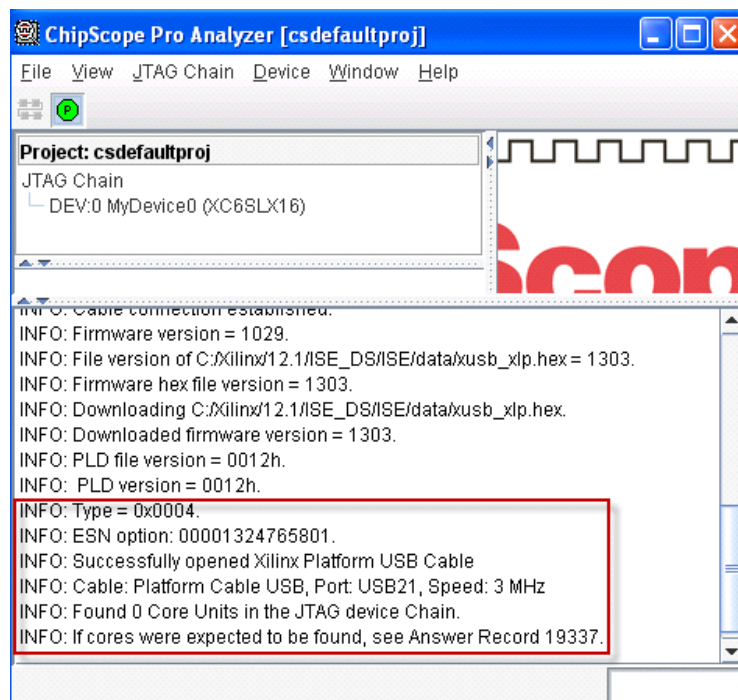

Figure 5: JTAG Chain Connection Data
4. Confirm the connection to the JTAG chain by verifying the information that appears in the bottom pane of the ChipScope Pro Analyzer window, as illustrated in Figure 5.